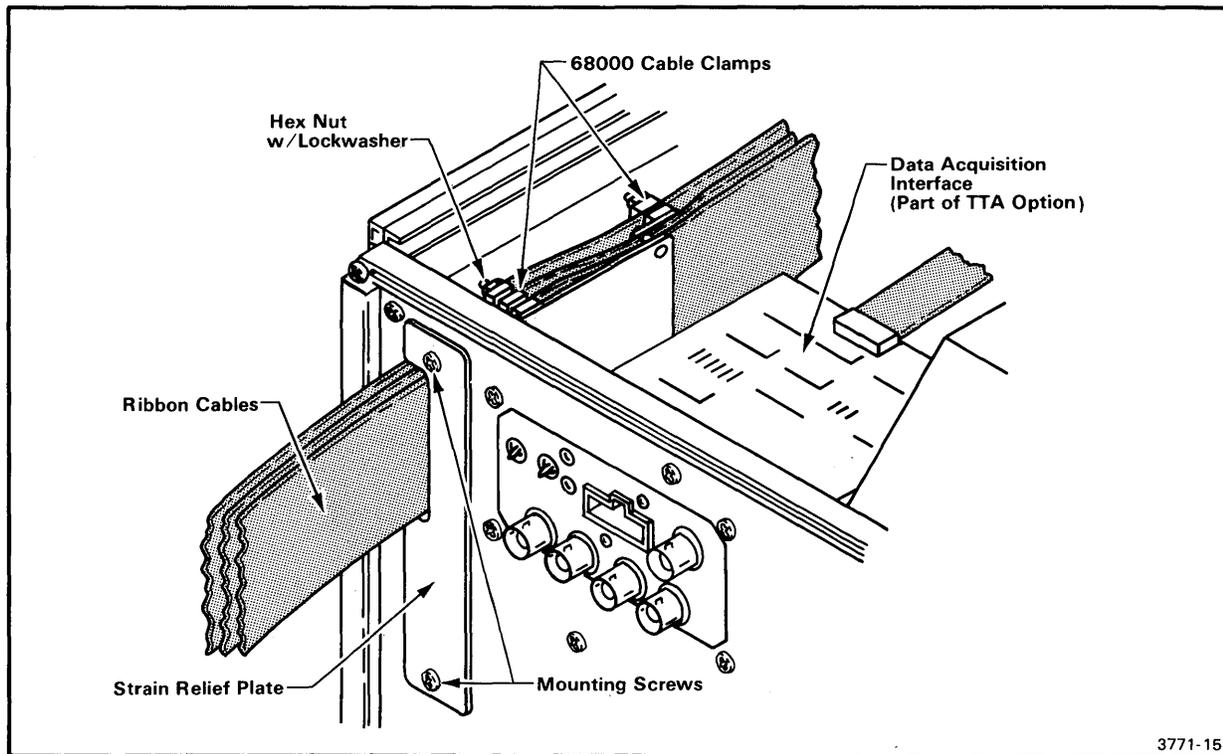

Fig. 3-5. Strain relief plate installation/removal.
11. Remove the two mounting screws at the top and bottom of the strain relief plate, as shown in Fig. 3-5. Then remove the strain relief/cable clamp assembly from the rear panel.